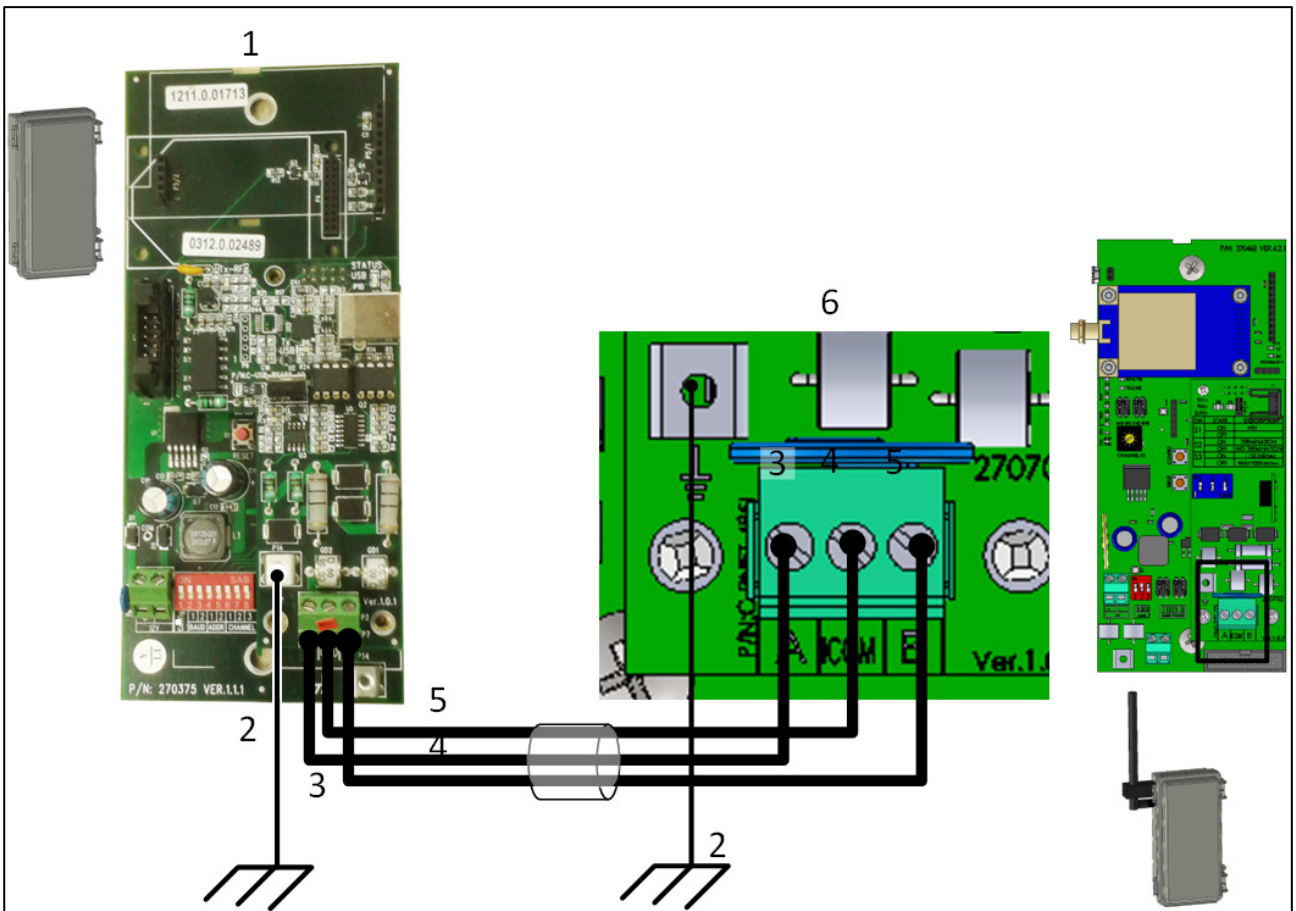

Figure 27: Wiring a USB RS-485 to an RLINK ONE
- Figure 27: Wiring a USB RS-485 to an RLINK ONE
Figure 27 key